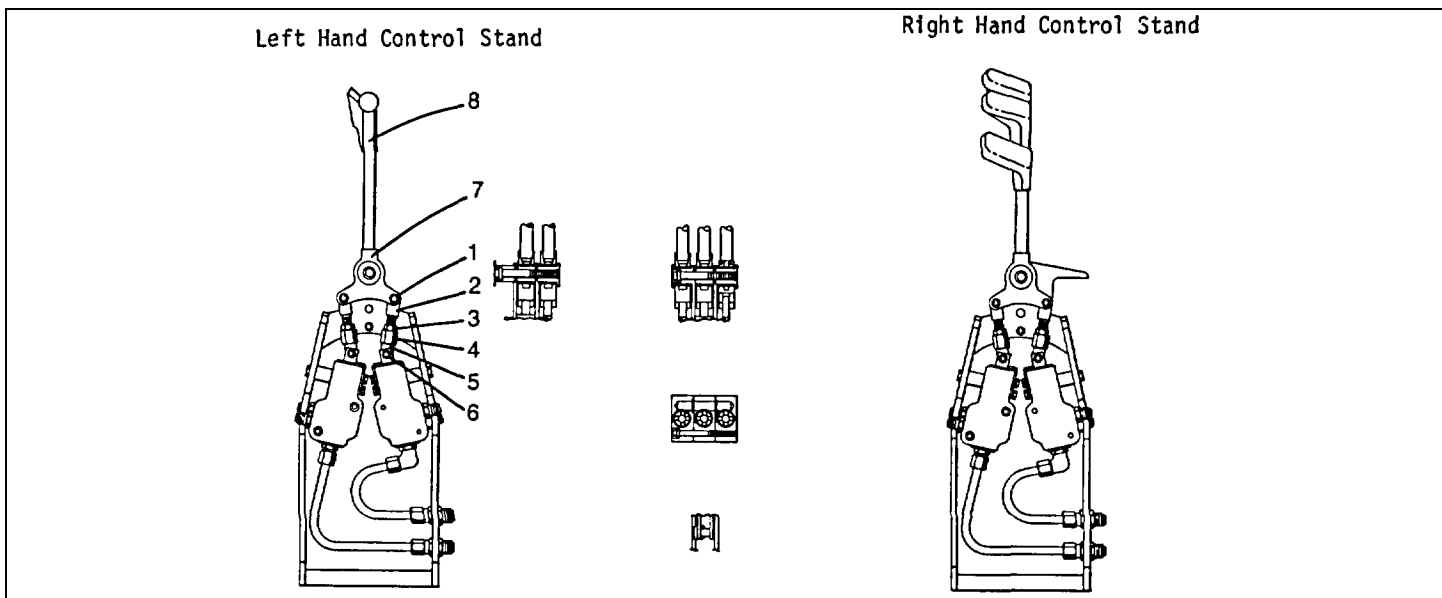

Fig. 4-11
4-18 Control Lever Adjustment (Fig. 4-11)
- (b) Loosen the jam nut. (See Fig. 4-11).